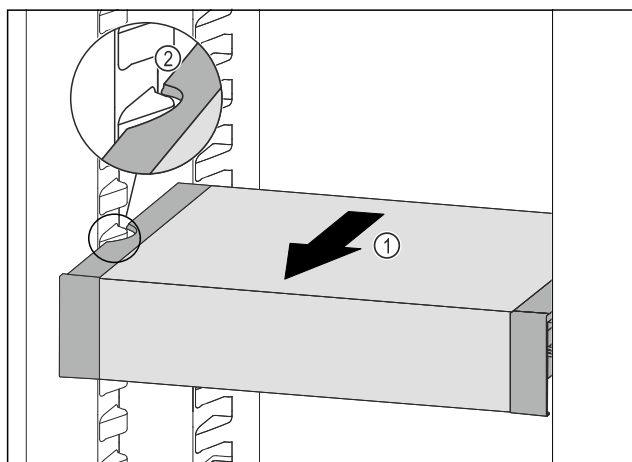

Fig. 132
- ▶ Pull VarioSafe forwards Fig. 132 (1) until the recesses in the side of the VarioSafe are at the level of the support rib in the fridge section. Fig. 132 (2)